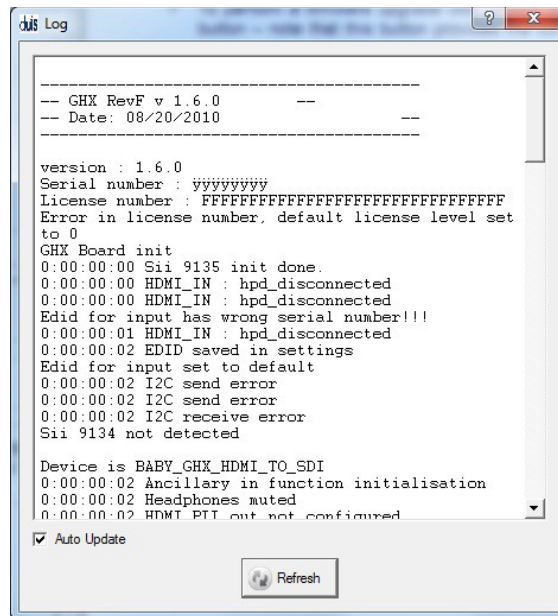

Figure 23: Log Window
- Select “Auto Update” from that window to see all messages (see Figure 23).